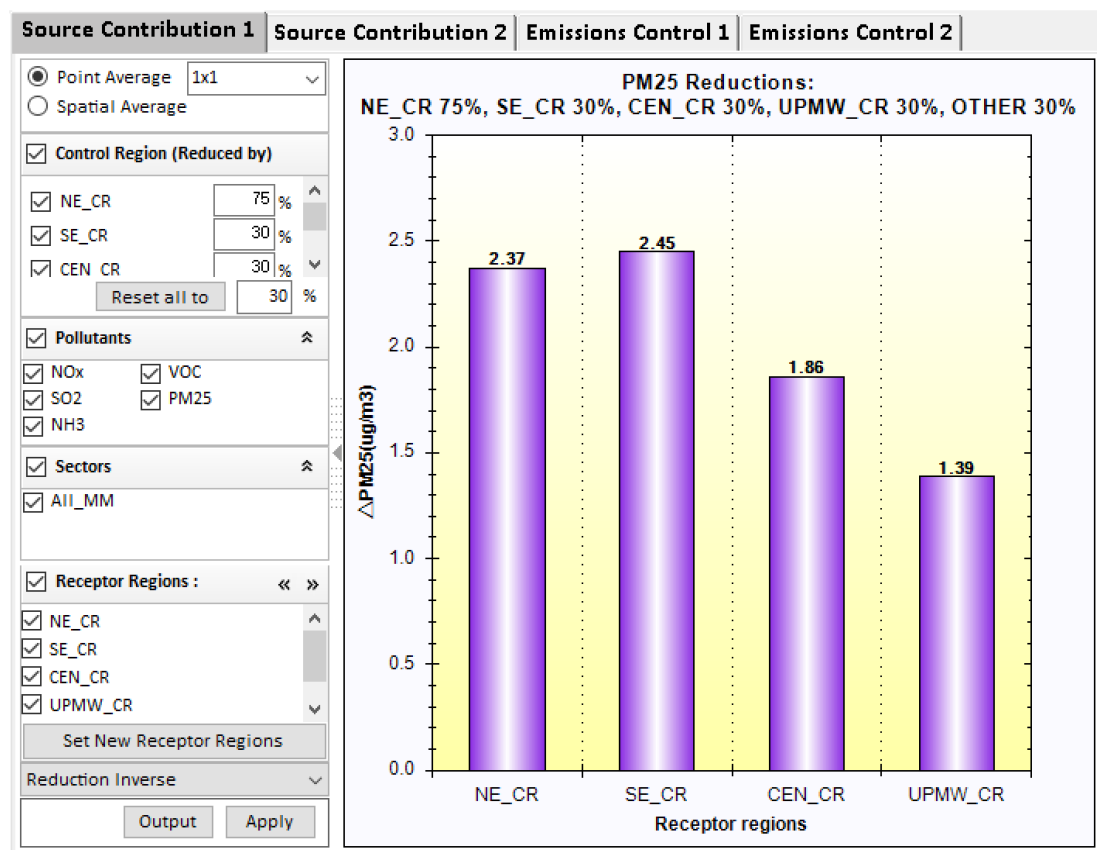

Fig. 61 Example of Source Contribution 1
Under **Source Contribution 1** module, it provides functions for users to analyze the source contribution to target pollutant (e.g., PM2.5, O3) in selected receptors from the different emission controls. As shown in Fig. 61, the left panel is the configuration options of **Source Contribution 1**, while the right panel shows the pollutant reductions under current configuration of emissions control.
Under this module, it allows user to compare the cumulative/cluster impacts and the different source contributions to  $PM_{2.5}$  or  $O_3$  decrease caused by control factors (a control factor means a combination of region, pollutant, sector, e.g., NE\_CR/NOx/All\_MM) emission reductions under different emission control scenarios. As shown in Fig. 61, the configuration options in the left panel is similar to that of **Source Contribution 1**. The difference is that it provides three types of charts for visualization on the bottom of the configuration options, there are (1) Stack chart, (2) Cluster chart and (3) Pie chart.
**Stack chart:** This option shows the cumulative impacts of PM2.5 or O3 decrease (Air quality improvements) caused by the emission control scenario from current configuration options. For example, Fig. 61 shows the ambient PM2.5 concentration of Northeast climate region(NE\_CR) could be reduced by 2.37 μ g/m3 under the emission control scenario of NE\_CR 75%, SE\_CR 30%, CEN\_CR 30%, UPMW\_CR 30% and OTHER 30%. And the emission sources from primary PM2.5 (PM2.5/All\_MM) contributes almost 60% to PM2.5 Reduction in NE\_CR receptor.